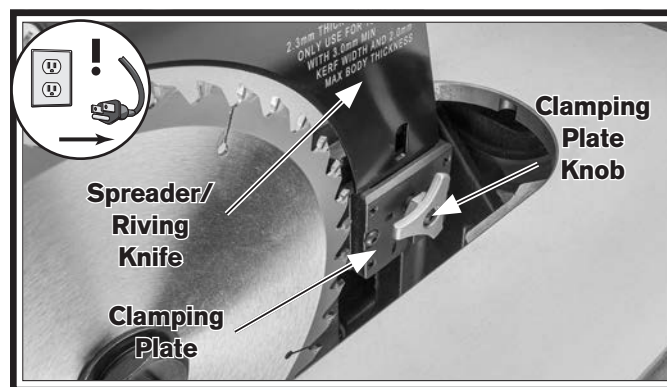

Figure 54. Spreader/Riving knife clamping plate.
3. Loosen clamping plate by turning clamping plate knob counter-clockwise (see **Figure 54**).
4. Slide mounting end of blade guard/spreader assembly between block and clamping plate until all the way down (see **Figure 54**).